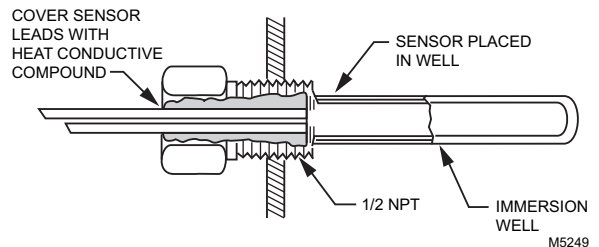

Fig. 3. Sensor inserted in an immersion well.
- Hot/cold water sensing: Strap sensor to a pipe or insert in a well (see Fig. 3).